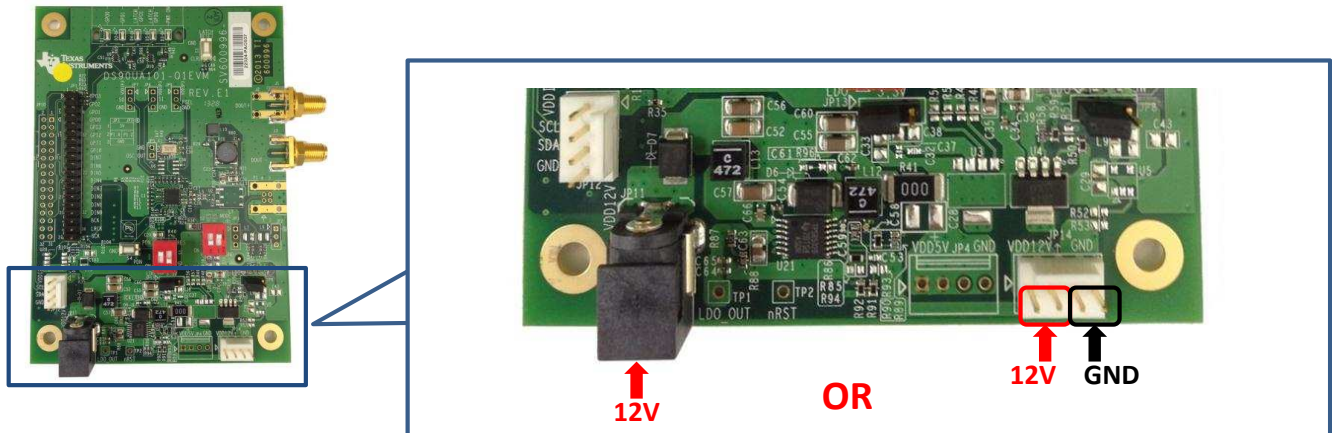

Figure 2-1. Powering the DS90UA101-Q1 Evaluation Board
1. Connect 12V to pin 1 or 2 of JP14, OR connect 12V via Power Jack on JP11. (Refer Figure 2-1)
2. Connect ground to pin 3 or 4 of JP14. (Refer Figure 2-1)